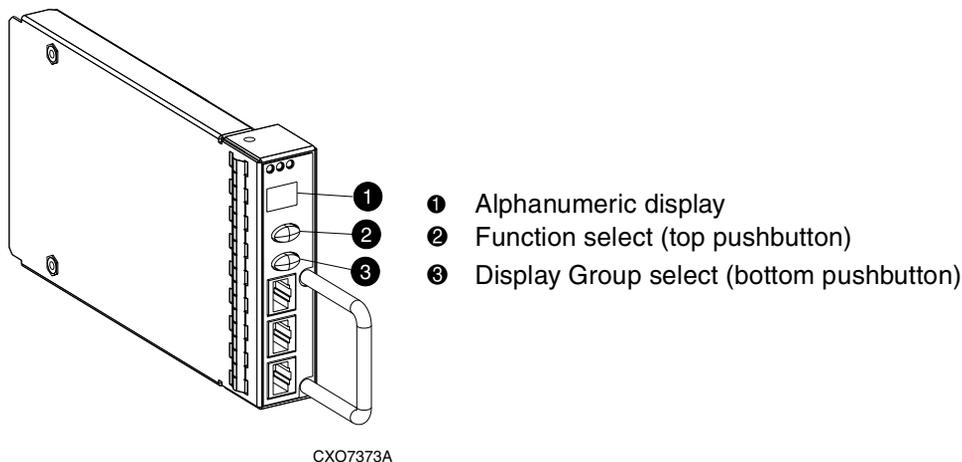

Figure 4–17: Alphanumeric display and controls
The two-character alphanumeric display is located at the top of the EMU (see ❶, Figure 4–17). This 7-segment display that provides information about multiple enclosure functions. The pushbuttons control the data displayed or entered.
- The bottom pushbutton (see ❸, Figure 4–17) enables you to sequentially move between groups and to select a display group.
- The top pushbutton, (see ❷, Figure 4–17) enables you to move between the levels within a display group.